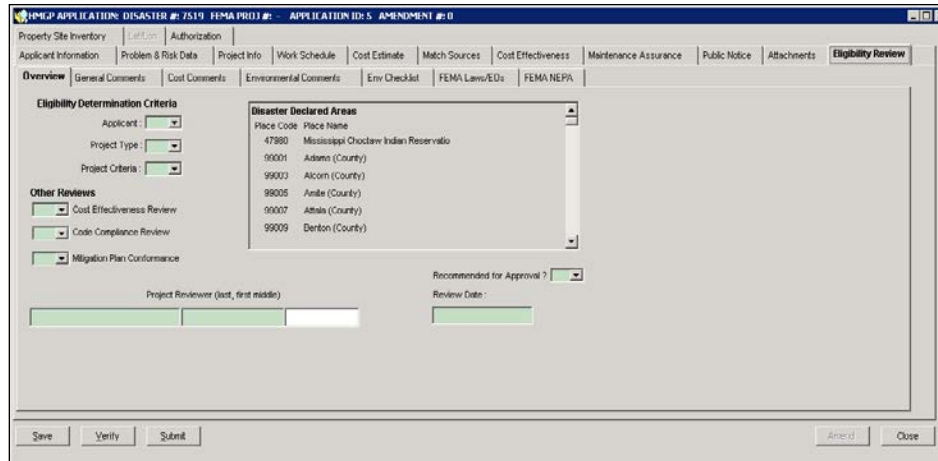

Figure 6-67: Mitigation > Projects > Application Development > Eligibility Review > Overview Sub-tab
1. Click the **Eligibility Review** tab. Seven sub-tabs are displayed, of which only five are available for entering Eligibility Review information. The **Overview** sub-tab is displayed by default. (Figure 6-67).